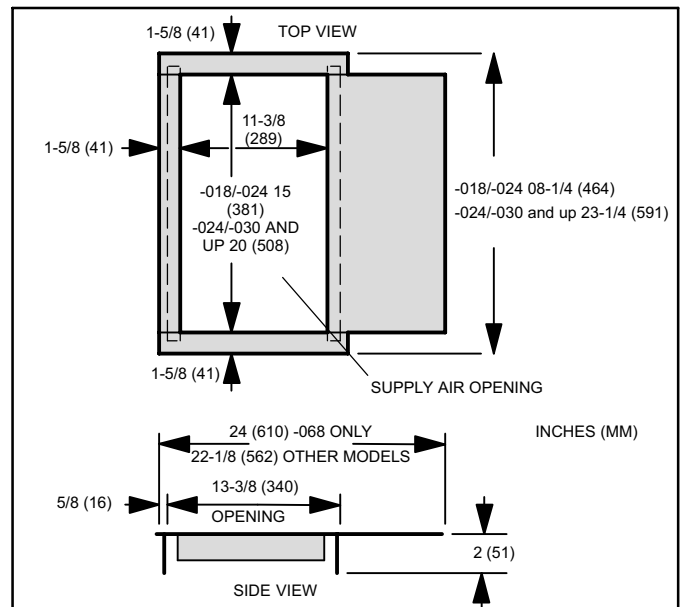

Figure 10. Downflow Combustible Base Dimensions
9. Cut an opening appropriately sized for combustible base. Base dimensions are illustrated in figure 10. After opening has been cut, set the additive base into opening. Connect outlet air plenum to the additive base. Set the unit on the additive base so flanges of the unit drop into the base opening and seal against the insulation strips. The unit is now locked in place. Install return air plenum and secure with sheet metal screws.